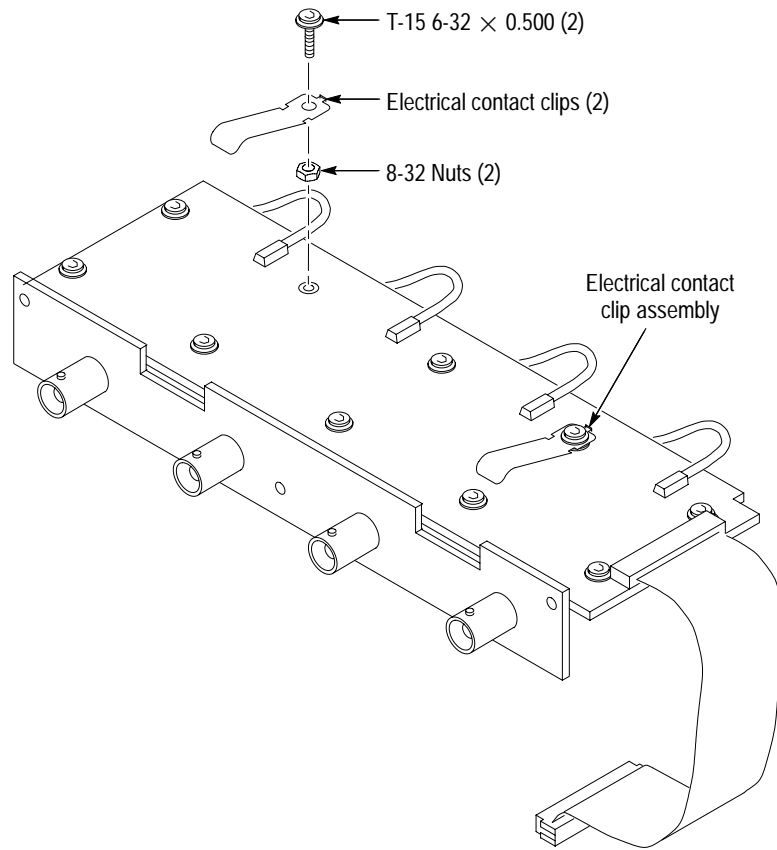

Figure 5: Partial view, attenuator electrical contacts installation
**NOTE.** *Examine the attenuator section located towards the front panel on the bottom side of the oscilloscope. If the attenuators are located on a separate circuit board assembly, perform the following procedure (see Figure 5).*